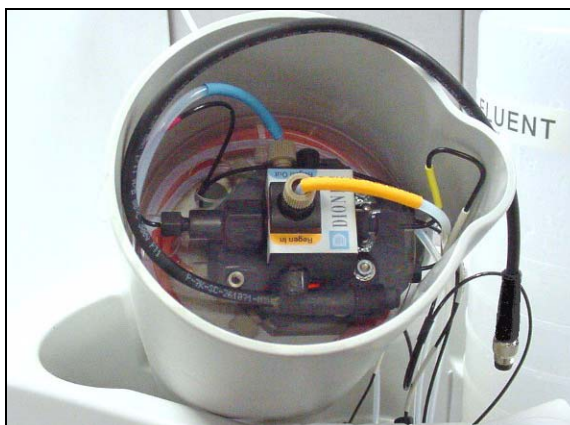

Figure B-35. CR-TC Installed in Holder
5. Check that none of the lines are caught under the CR-TC and then push the CR-TC onto the metal stud inside the EGC holder (see Figure B-35). Push down until the CR-TC snaps into place.